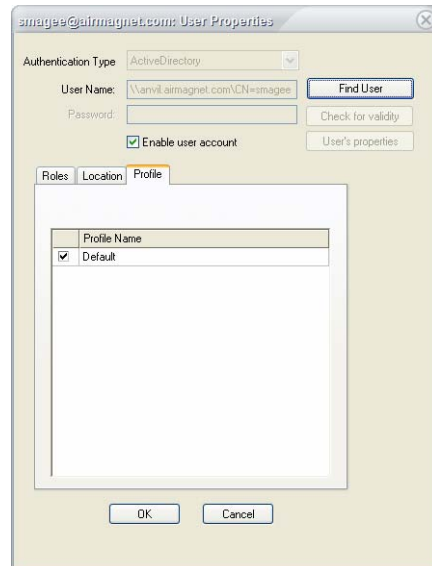

Figure 4-37: Assigning policy profiles to user
- 15) Click the Profile tab, the New User dialog box refreshes. See Figure 4-37